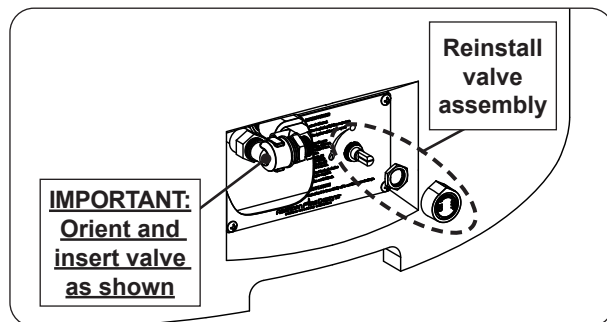

Fig. 33-4 Reinstall valve assembly
1. Insert the valve assembly through the plate (in the base). Replace the nut onto the valve stem, and tighten. Reinstall the control knob. See Fig. 33-4.
**Important:** Handle with care to prevent damage to the thermocouple and gas connections. Ensure the valve is oriented and inserted in the manner shown. See Fig. 33-4.